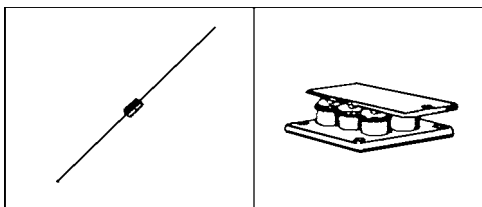

FIGURE 7-9. Two types of surge suppressors.
**Surge Suppressors.** Transient suppressors are available to protect electronic equipment. The larger devices can dissipate 8000 watts in 1 millisecond. Smaller diode-size devices have peak power dissipation of 600 watts. See Figure 7-9.